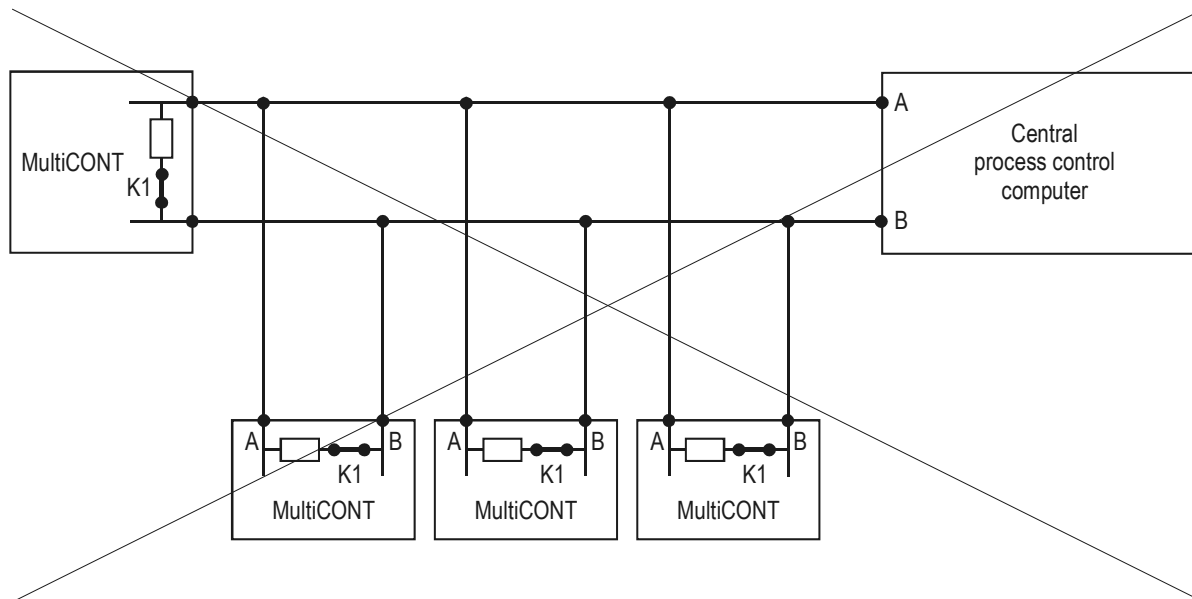
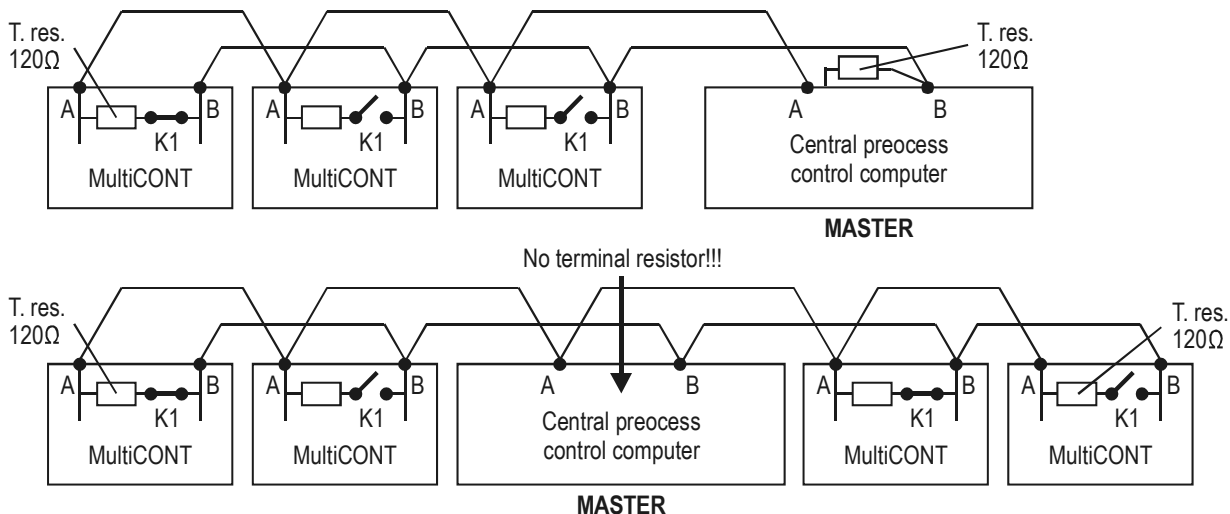

Figure 3: Example of an incorrect network
Figure 4: Examples of correct networks
Incorrect configuration is where there are more than 2 terminal resistors or they are not on the (2) farthest points of the line. (Fig.3). In such cases, especially when using too long connection cable, data transfer errors may occur. The MultiCONT units should be connected one by one on the cable (Fig. 4). Star topology is not allowed!